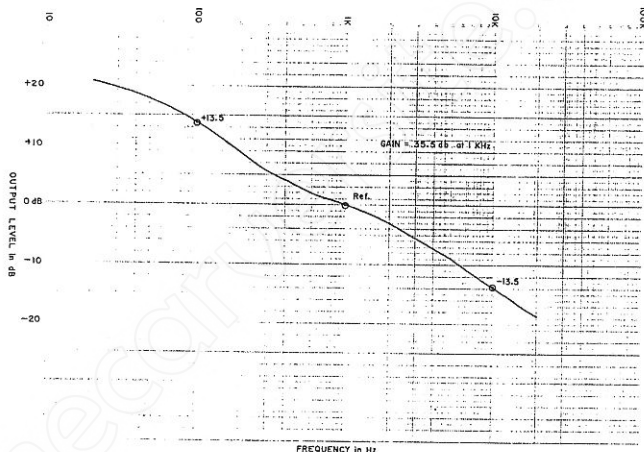

Figure 6-5. Phono 1 Response
- C) Referring to Figure 6-5 below, verify that the output signal levels are within ± 0.5 dB of the values indicated at each of the test points (circled). Adjust input frequency and repeat until all 3 test points have been verified. Table 6-5 lists the acceptable ranges.